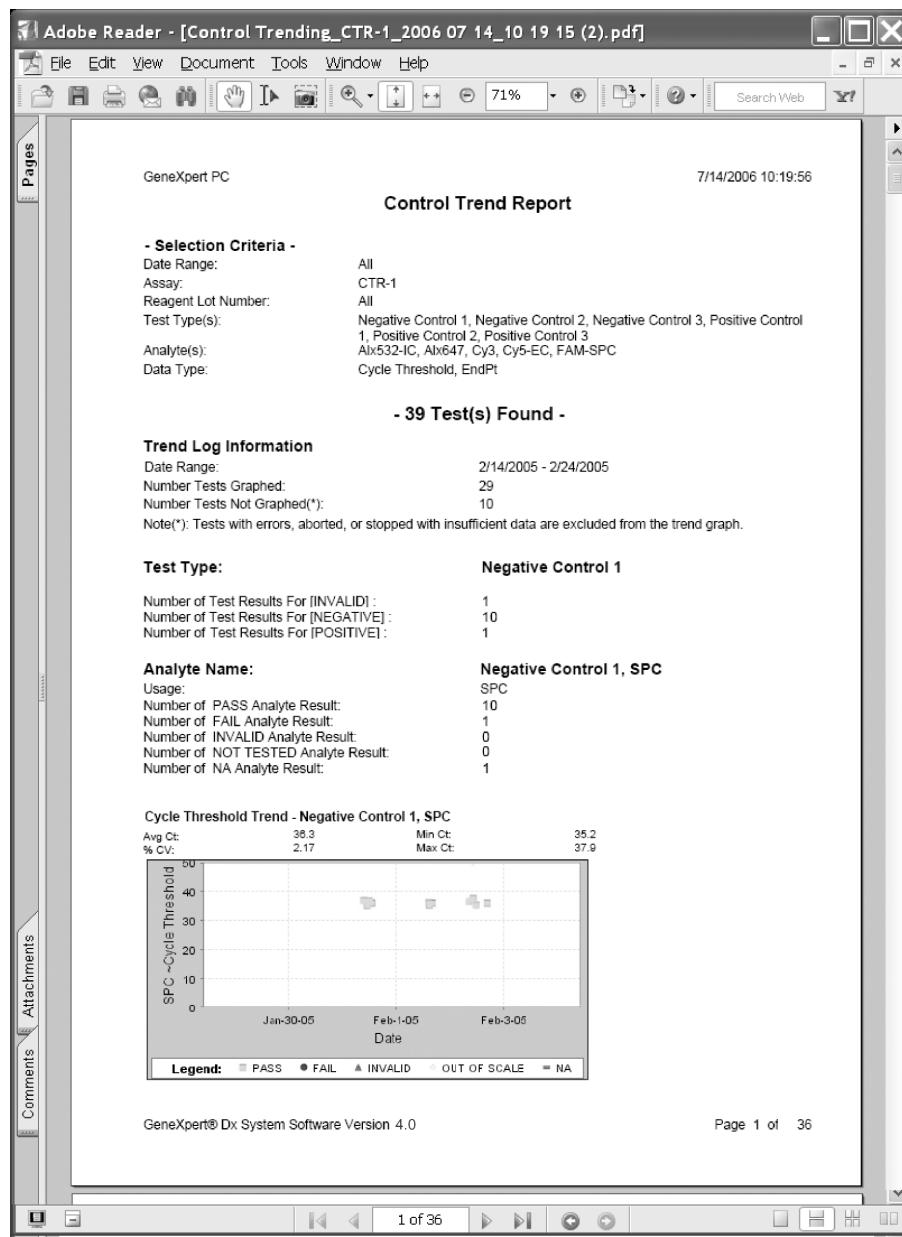

Figure 7-2. An example Control Trend Report in the Adobe Reader window.
- **Preview PDF**—Creates a PDF file and displays the file in the Adobe Reader window (Figure 7-2). You can save and print the PDF file from the Reader software.